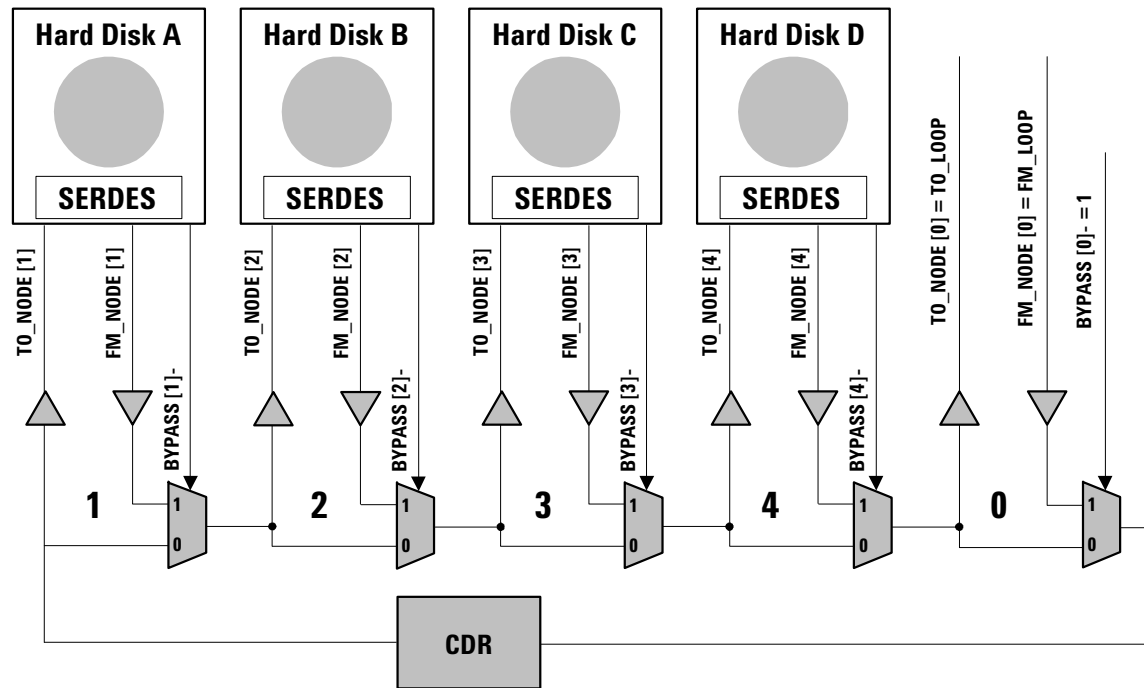

Figure 2 - Connection Diagram for CDR at First Cell
HDMP-0552's TO\_NODE[n]± differential output pins to the Disk Drive Transceiver IC (for example, an HDMP-263x) Rx± differential input pins. Data from the Disk Drive Transceiver IC Tx± differential output pins goes to HDMP-0552's FM\_NODE[n]± differential input pins. Figure 2 and Figure 3 show connection diagrams for disk drive array applications. When the “disk bypassed” mode is selected, the disk drive is either absent or nonfunctional, and the loop bypasses the hard disk.
The design of HDMP-0552 allows for placement of the CDR at any location with respect to hard disk slots. For example, if BYPASS[0]- pin is tied to VCC and hard disk slots A to D are connected to PBC cells 1 to 4 in the same order, the CDR function is performed at entry to the HDMP-0552 (Figure 2). To achieve a CDR function at exit from the HDMP-0552, BYPASS[1]- must be tied to VCC and hard disk slots A to D must be connected to PBC cells 2, 3, 4, 0 in that order (Figure 3). Table 3 shows all possible connections. In case of CDR at entry, a Signal Detect (SD) pin shows the status of the signal at the incoming cable. The recommended method of setting the BYPASS[i]- pins HIGH is to drive them with a high-impedance signal. Internal pull-up resistors force the BYPASS[i]- pins to VCC.